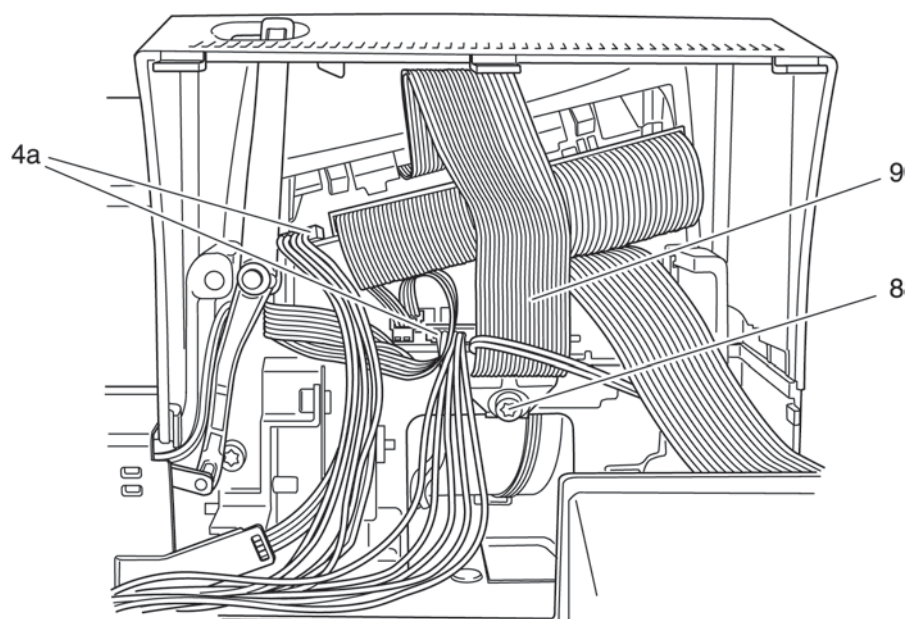

Fig. 30a
- Disconnect plug 7 of the connection cable from the circuit board (fig. 30a).